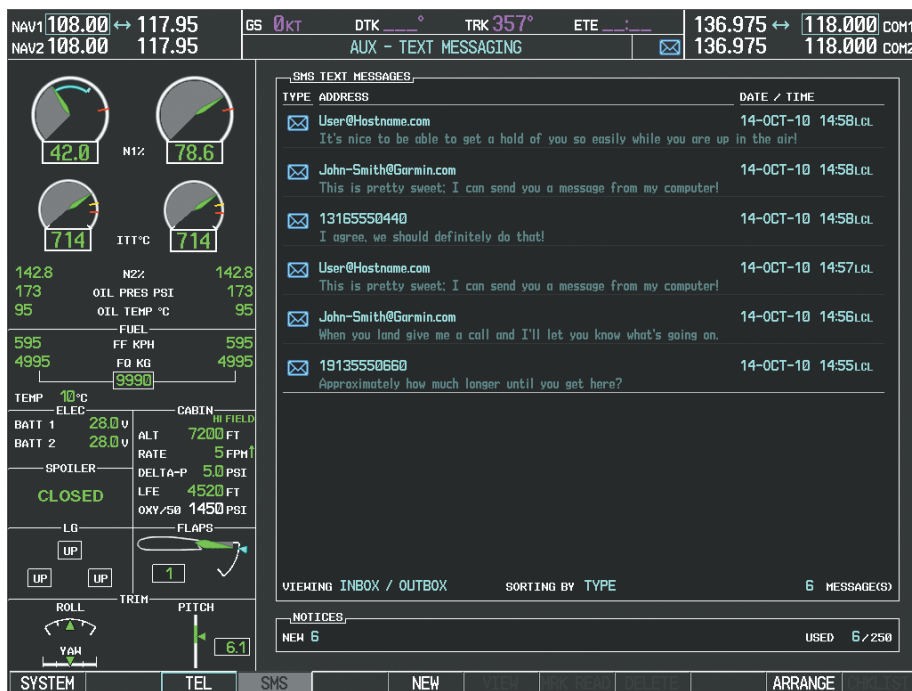

Figure 8-96 Text Messaging Page
- 3) If necessary, select the **SMS** Softkey to display the AUX-TEXT MESSAGING Page as shown in Figure 8-96.